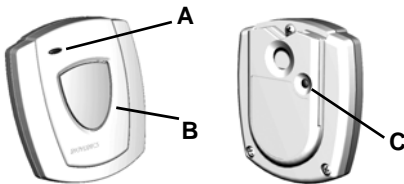

Figure 1 Transmitter external components
10. When prompted by the receiver or gateway to reset transmitter, press the reset button (Figure 1).
7. Once the unit has been sealed, press the reset button located on the rear housing to complete the configuration (Figure 1).